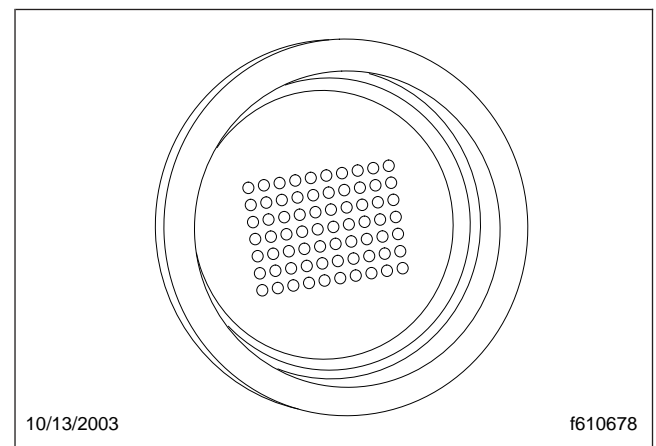

Fig. 15.8, Power-Up Dot Display
1. With the parking brake set, select neutral (N) by moving the selector switch to the N position.
3. After the ignition is turned on, the current gear indicator shows the dot display, arranged in a square pattern. All dots in the pattern should light up, without gaps or spaces. See Fig. 15.8.